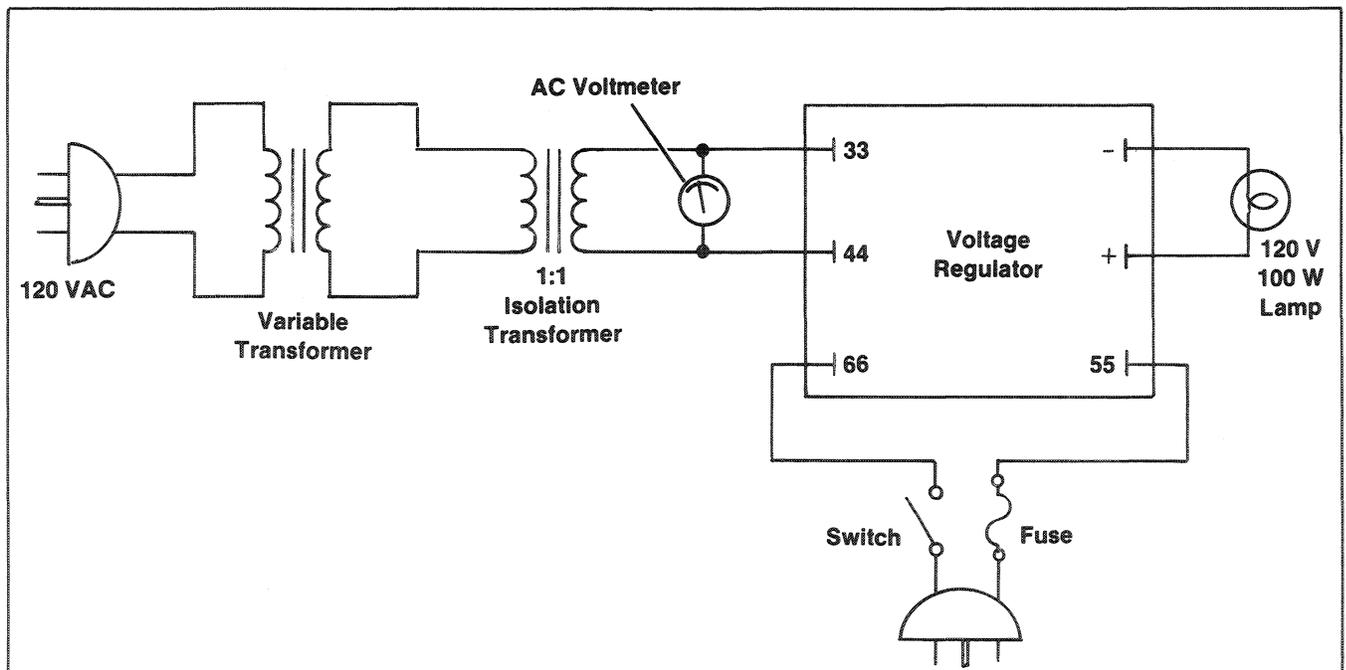

Figure 5-1. Voltage Regulator Test
1. Connect components as shown in Figure 5-1.